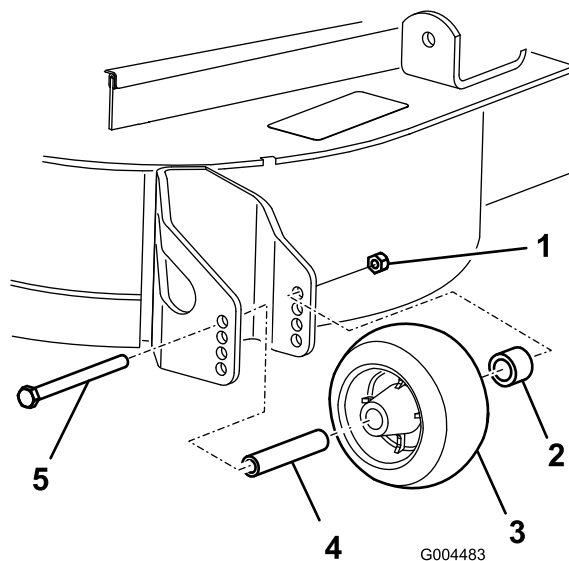

Figure 26
- After adjusting the height-of-cut, adjust the rollers by removing the flange nut, bushing, spacer, and bolt (Figure 26).
- Install the flange nut, bushing, spacer, and bolt. Torque to 40-45 ft-lb (54-61 N·m) (Figure 26).